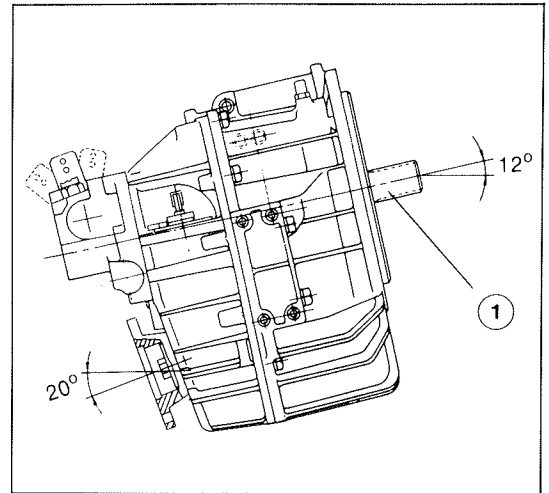

Figure 1
The mounting inclination of the transmission input shaft (Figure 1, item 1) should not exceed an angle of 12° (meaning: max. incline of output shaft 20° (Figure 1, item 2)).